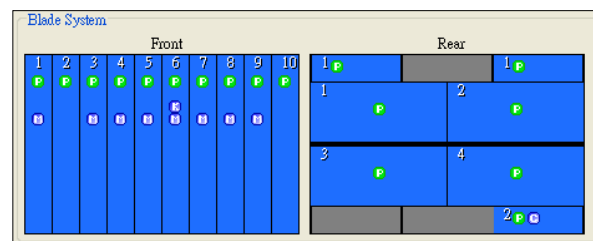
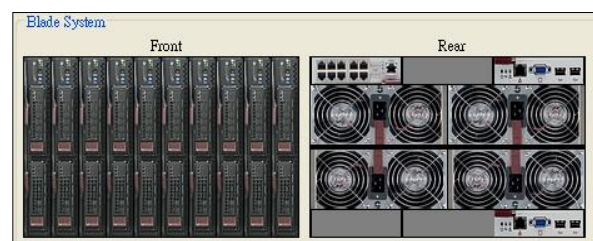

Figure 2-7 Show Status and Number, Hide Picture
Figure 2-8 Only Show Picture
**View Option:** Allows a user to show or hide the status, picture and number of the module. Figure 2-7 and Figure 2-8 show the results of two different sets of View Options checked.